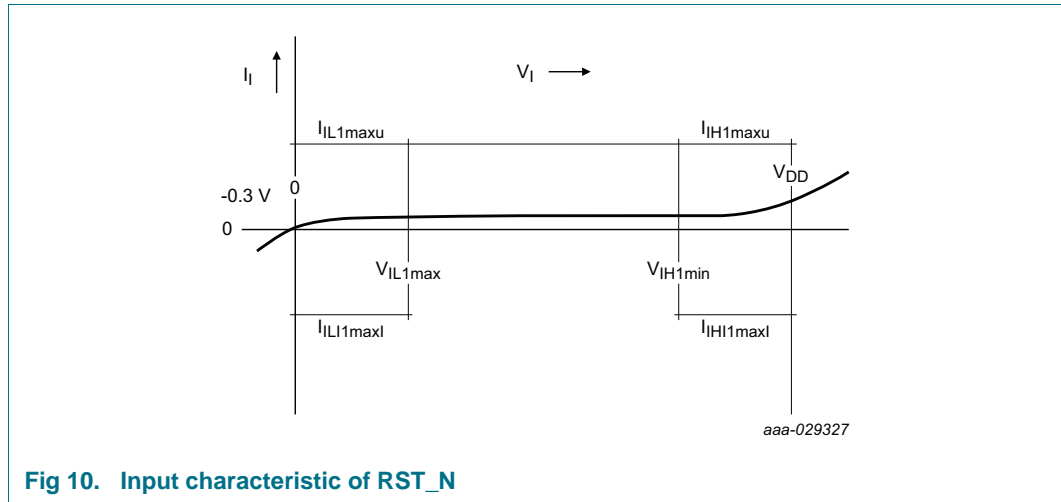

Fig 10. Input characteristic of RST_N
- [3] The active low RST_N input internally has a resistive pull-down device to VSS. Accordingly a current is flowing into the pad voltages above 0 V. Figure 10 shows the RST_N input characteristic.